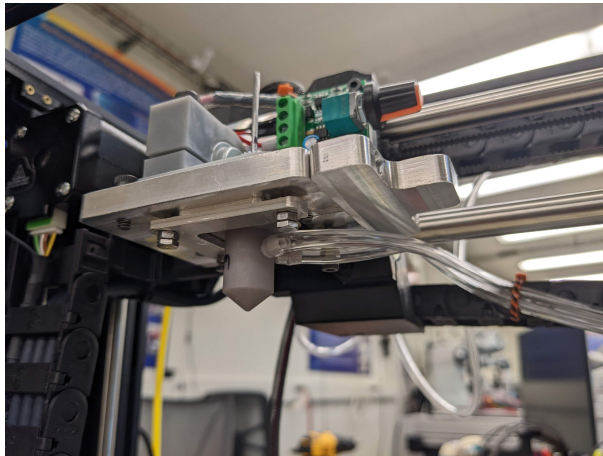

Fig. 3. Tubes installed on the printhead.
3. Connect one end of each tube to the barbed inputs of the printhead, see Figure 3.